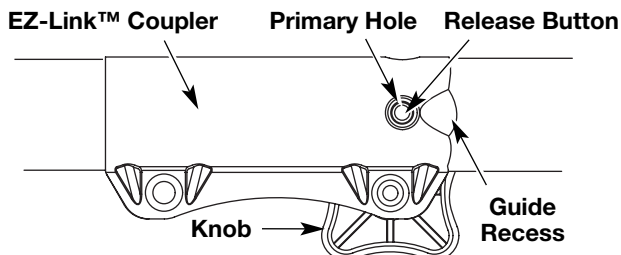
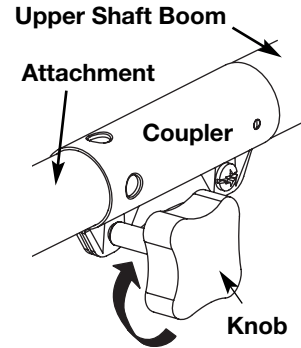

Fig. 3
Fig. 4
3. While firmly holding the attachment, push it straight into the coupler until the release button (Fig. 3) snaps into the primary hole (Fig. 3). The primary hole is on the opposite side of the coupler from the knob (Fig. 3). Align the release button with the Guide Recess (Fig. 3) to help installation.
4. Turn the knob clockwise to tighten (Fig. 4).
CAUTION: Before operating this unit, be sure that the release button is fully snapped into the primary hole (Fig. 3), and that the knob (Fig. 4) is securely tightened.
3. Press and hold the release button (Fig. 3).
4. While firmly holding the upper shaft boom (Fig. 4), pull the attachment out of the coupler.
CAUTION: Lock the release button in the primary hole (Fig. 3) and securely tighten the knob before operating this unit.